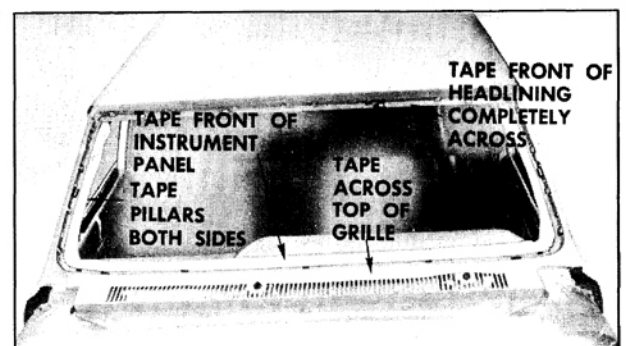

Fig. 16-306 Taping Locations
instrument panel with the front edge of tape lined up with break line of instrument panel. Apply 2" wide masking tape to both inside windshield pillars and across front edge of headlining. (Fig. 16-306) The application of masking tape will assist in clean-up after the glass is installed.
2. Apply two inch wide masking tape across front of instrument panel with the front edge of tape lined up with break line of instrument panel. Apply two inch wide masking tape to both inside windshield pillars. Apply masking tape across front edge of headlining. (Fig. 16-306) The application of masking tape will assist in clean-up after the glass is installed.